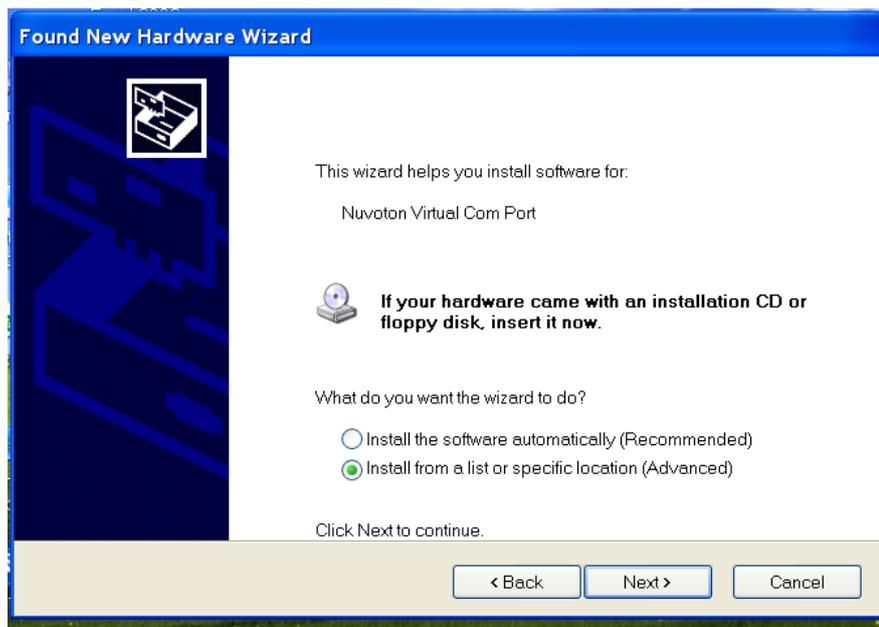

Figure 2
2. In the interface of figure 1, please select the first one "Yes, this time only", and then click next> to enter figure 2 (see below); at this time, select the second choice and then enter the interface of figure 3.